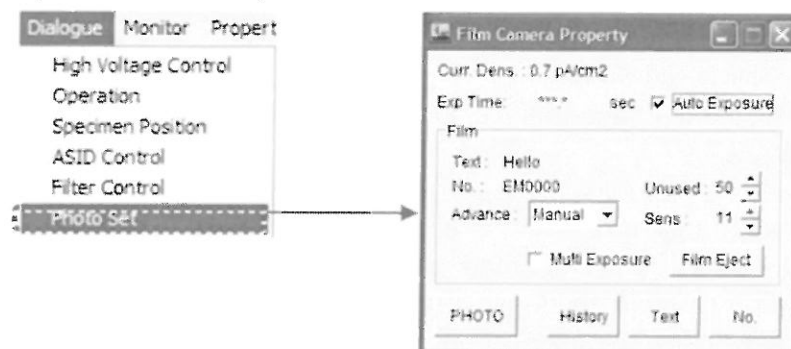

Fig. 5.4 Film Camera Property window
9. Set the number of unexposed films (films inside the dispensing magazine) (Fig. 5.4,  Sect. 4.4.7f)